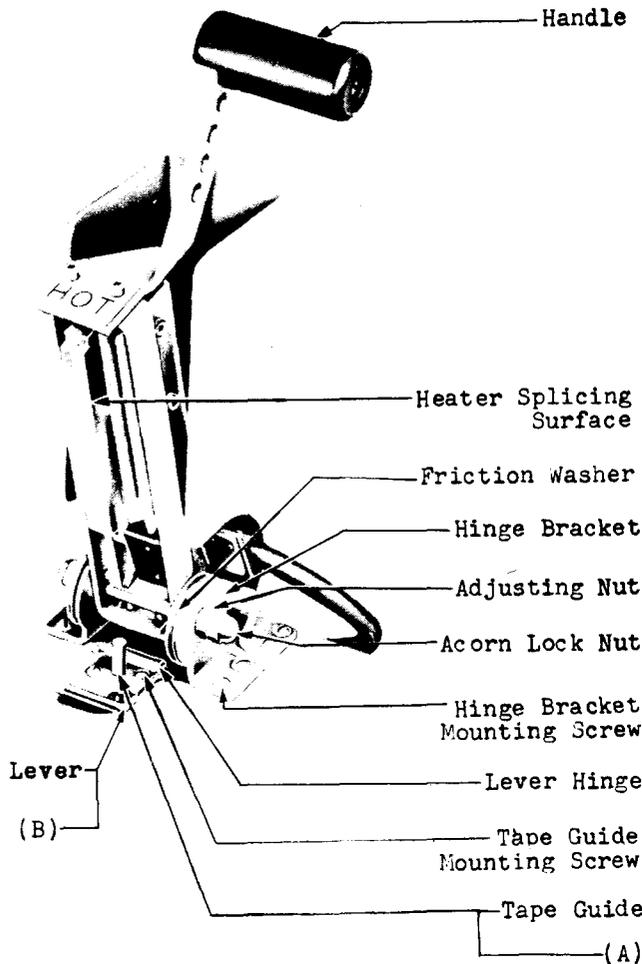

Fig. 4 - Heater and Tape Guide Assembly
- (a) Fig. 4(A) - The KS-13981 sealing tape shall be positioned by the tape guide so that it lies approximately centrally along the length of the anvil when the tape is drawn across the anvil.
- (b) Fig. 4(B) - The sealing tape guide lever shall move freely.